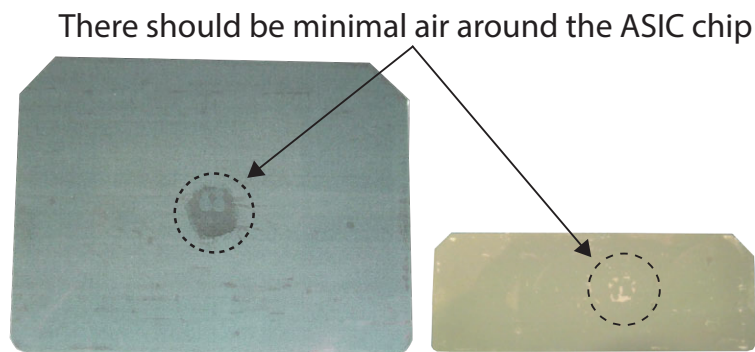

Figure 5 – Example of a properly installed mini tag
5. Step outside of your vehicle and look at the tag through the windshield. There should be minimal air around the ASIC chip. If there is air around the chip, rub the tag again as shown in Figure 4. Refer to Figure 5 for examples of properly installed tags.